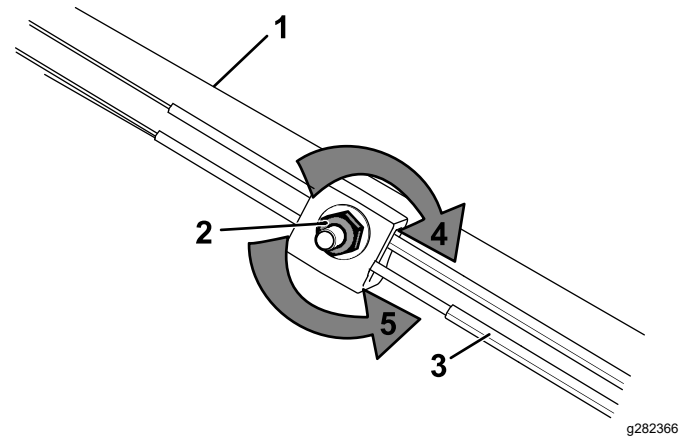

Figure 52
2. Adjust the tension on the cable (Figure 52) by pulling it forward or pushing it back and holding that position.
1. Turn the adjustment nut counterclockwise to loosen the cable adjustment (Figure 52).